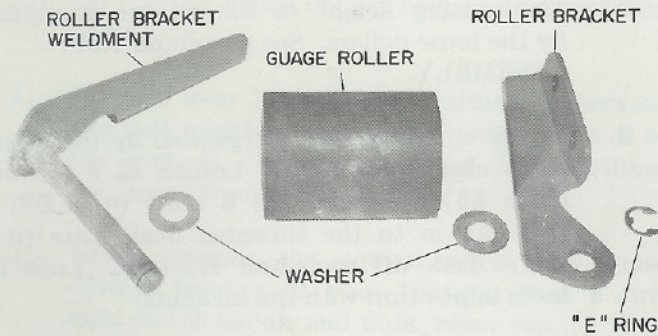

fig. 2
1. Assemble the deck gauge roller. Install a flat washer (item 9), gauge roller (item 10), flat washer (item 9) and roller bracket (item 7) on the roller bracket weldment (item 11) and secure with "E" ring. See fig. 2.